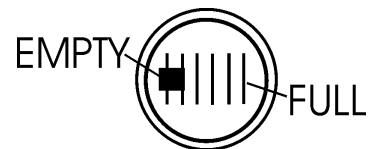

Figure 11. Fuel Gauge
3. Read the fuel gauge located on top of the fuel tank (Figure 11) to determine if the fuel level is low. If fuel is low, replenish with clean unleaded fuel.